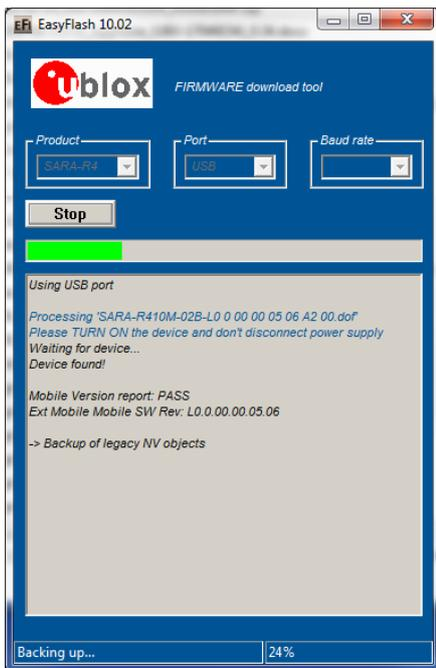
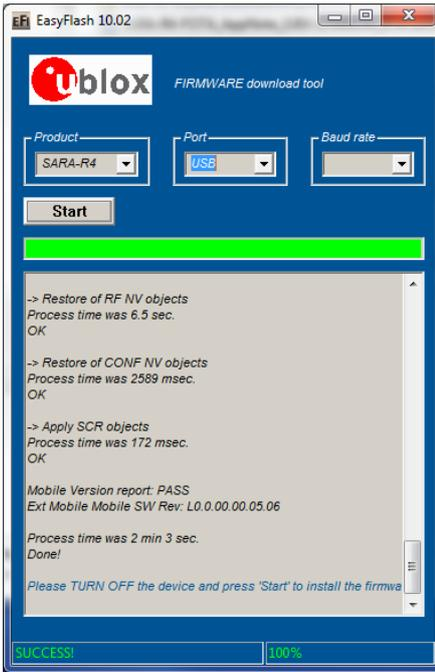

Figure 3: Flash process in progress
Figure 4: Flash process complete and successful
8. Flash will start, wait for flash to complete (see Figure 3 and Figure 4)